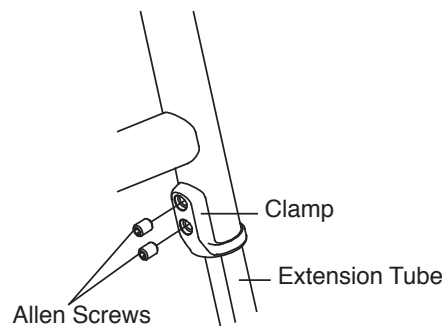

Figure 3
1. Loosen the two Allen Screws in the clamp that secures the footrest to the frame. See Figure 3. Loosen each Allen Screw until the entire head of the screw is completely visible outside the clamp.
1. Loosen the two Allen Screws in the clamp that secures the footrest to the frame. See Figure 3. Loosen each Allen Screw until the entire head of the screw is completely visible outside the clamp. The Allen Screws should disengage from the T-Nuts.